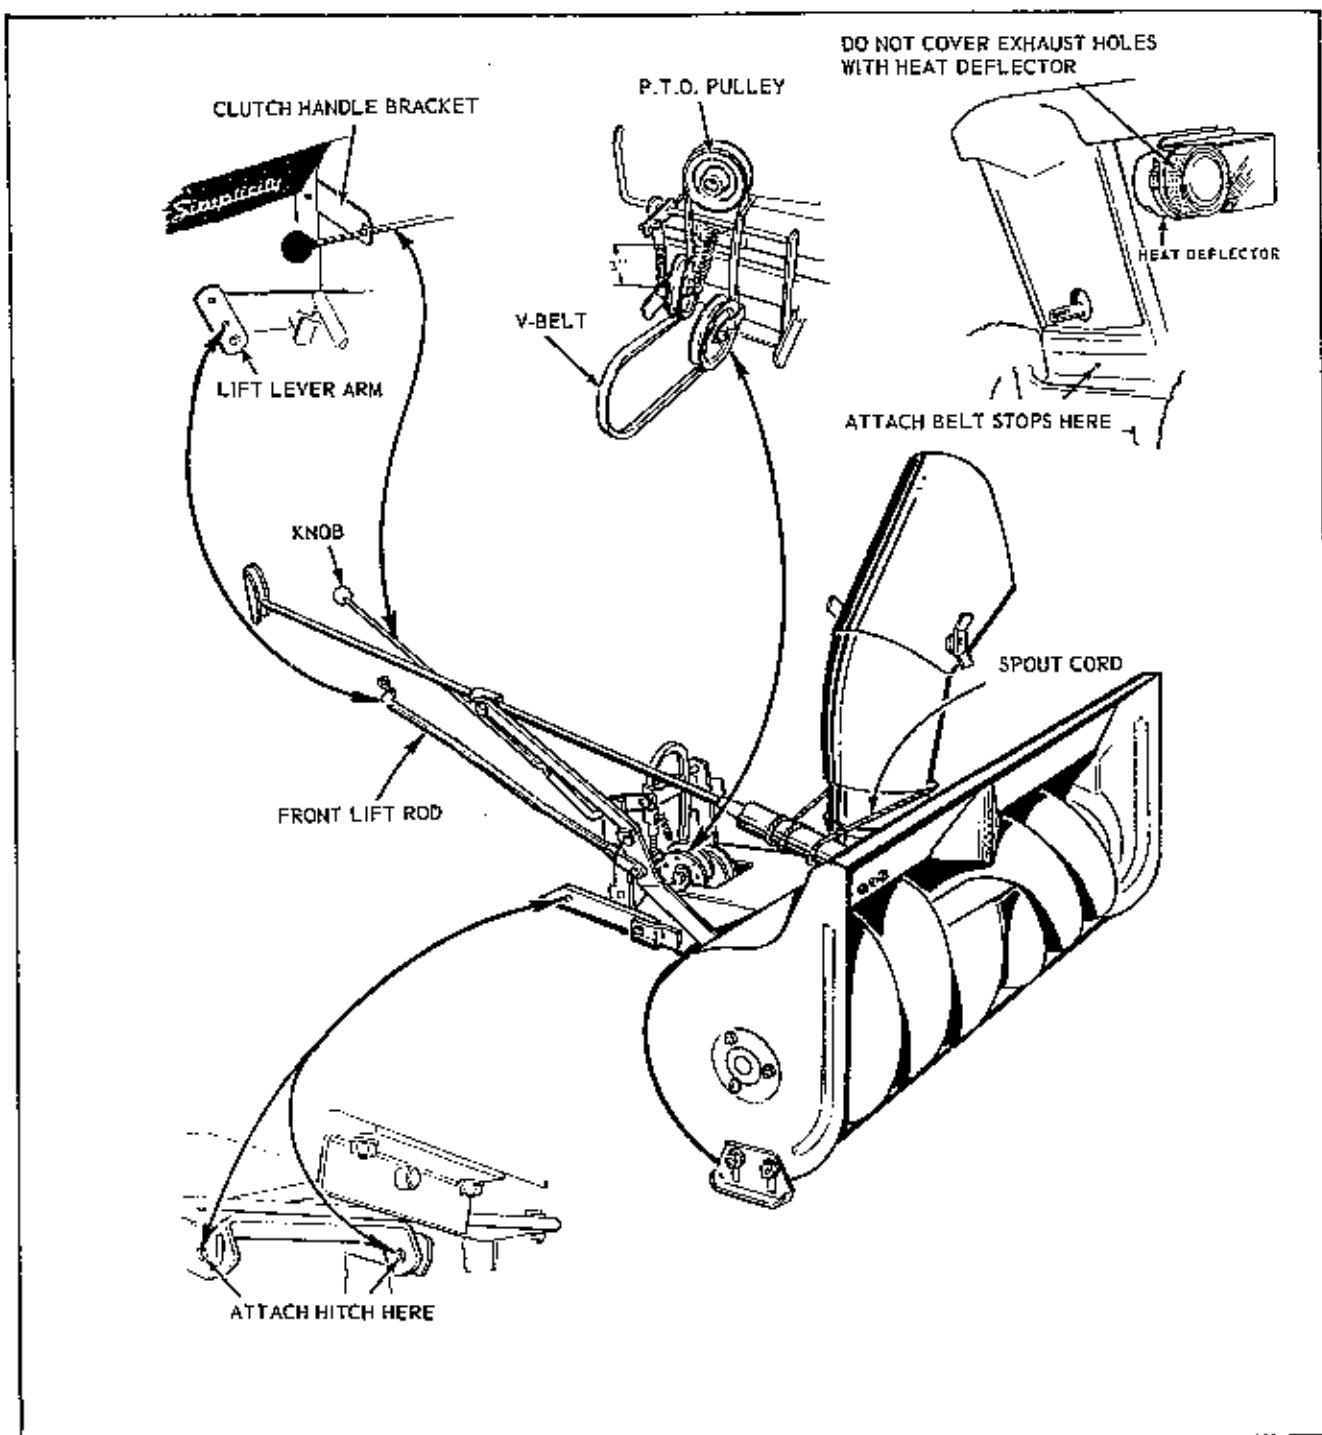

FIGURE 2
3. Remove the 5/16"-18 x 1-1/4" long Hex. Capscrew, Lock and Plain Washer from tractor directly below the Front Mounted Power Take-Off Shaft. Insert through the two belt fingers and reassemble. DO NOT TIGHTEN. See Figure 2. Right hand belt finger next to bolt head. Left hand finger next to tractor.
to shaft. Secure the 3/8"-24 Set Screw down on the #169129 Key. Position hub so 1/4" of Engine Shaft is exposed in front. See Figure 2.
5. Attach Hitch Assembly to tractor with the two pins and two spring clips. See Figure 2.
6. Place belt around Front Mounted Power Take-Off Pulley. See Figure 2.
10. Position discharge spout directly forward. Position control tube so that the cord clamp faces away from the side of the spout. Provide one (1) coil on top and one (1) coil on bottom. Position the free ends of the cord around the spout and the clamp securely into position after removing all slack from the cord. The end of the cord closest to operator passes under the tube, end away from operator passes over the top of tube. See Figure 2.
12. Insert clutch control rod through bracket and attach to clutch pivot and secure in place with spring clip. See Figure 2.
lever arm using top hole, on the right hand side of the tractor, with yoke pin and spring clip. Insert lower end of lift rod into lift arm bracket of push bar and secure with spring clip. The lower end of the front lift rod is to point away from the tractor. See Figure 2.
14. Position heat deflector over the muffler and adjacent to the engine. Flap of deflector to be positioned against air cleaner. Secure with clamp provided. See Figure 2. This deflector is provided for winter use only and must be removed in warm weather to prevent overheating and damaging of engine. The deflector directs a flow of warm air around the carburetor and allows for more efficient winter operation of the tractor engine.
With belt disengaged, the Spring, (Ref. Let. AH Page 6) should be compressed to 3". See Fig. 2. Additional